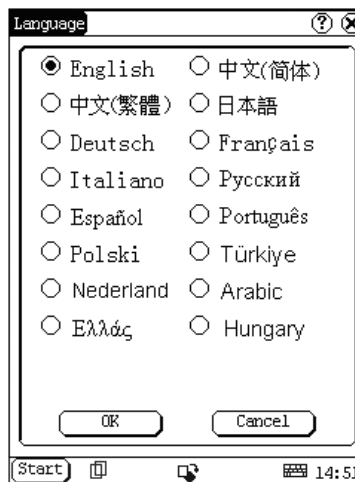

Fig 4-38
- 1) In the Control Panel interface, click 'Language' icon to open the Language interface. See Fig 4-38.